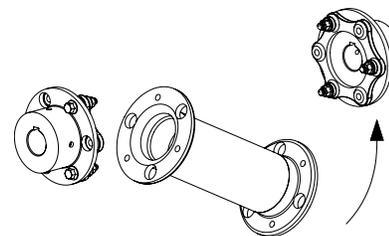

Figure 3 - Position spacer up between hubs.
- 3.1. Position the spacer between the hubs as shown in Figure 3.